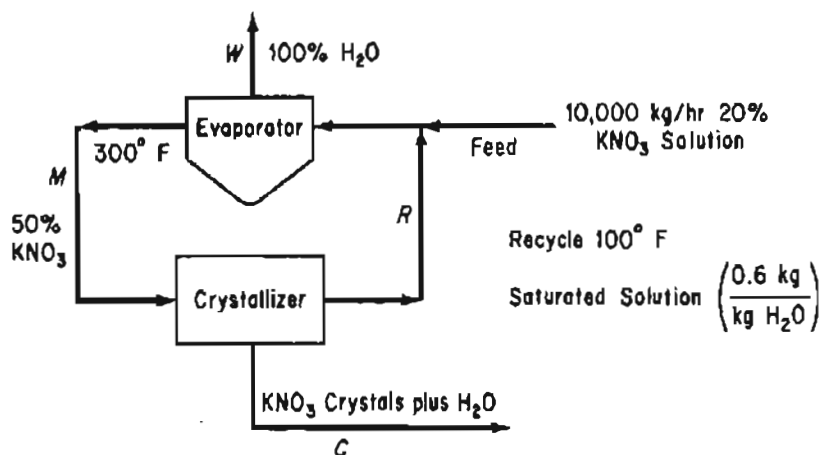

Figure P12.7
- **12.7** Examine Figure P12.7. What is the quantity of the recycle stream in kg/hr? In stream C the composition is 4% water and 96% KNO_3